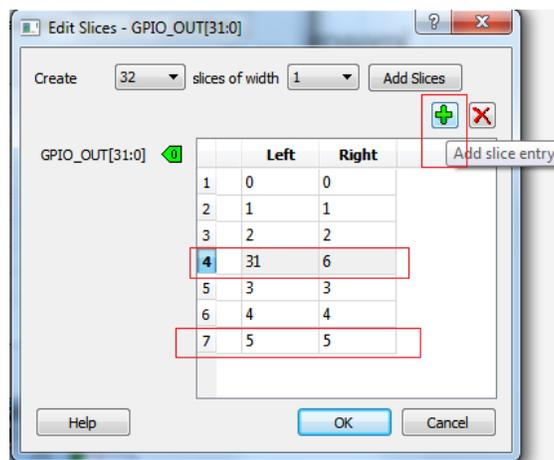

Figure 31 • Edit Slices Dialog Box
12. Click Add slice entry in the Edit Slices dialog box to add GPIO_OUT[5] and change the configuration as shown in Figure 31. Click OK.